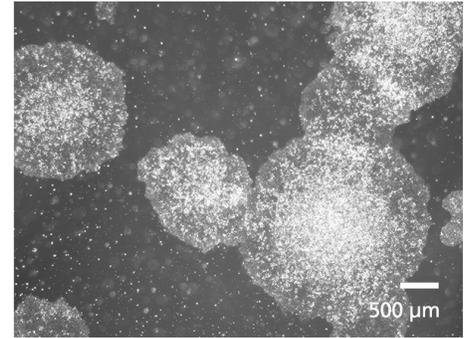

Figure 2. SCTi003-A iPSCs Demonstrate Varying Colony Densities When Seeded at a Range of Starting Concentrations.
14. On Day 6 - 8, select the well with optimal iPSC colony density for passaging (Figure 2). The culture should consist of healthy iPSC colonies that are large, compact, and have centers that are dense compared to their edges.